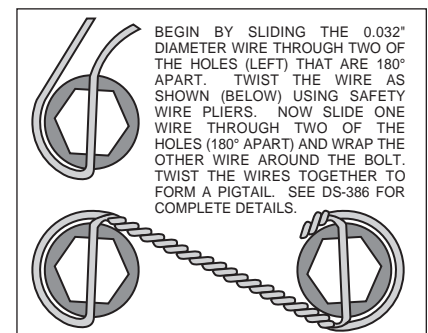

Figure 4. Safety Wire Diagram
- Slide the bracket kit assembly (1) onto the housing flange and then insert the axle assembly through the center hole of the bracket kit assembly (1). Secure using the stock Original Equipment Manufacturer (OEM) bolts and nuts. Stock OEM hex nuts that retain the bracket kit assembly (1) should be on the wheel side of the bracket. Apply red *Loctite*® 271 to the stock OEM bolt threads and torque to OEM specifications. Make sure the bracket kit assembly (1) brake pads are FACING OUTWARD TOWARDS THE WHEEL.
- With the larger I.D. side of the rotor (3) facing away from the hat (2), bolt the rotor (3) to the hat (2) through the backside of the rotor using washers (4) and bolts (5). Using an alternating sequence, apply red *Loctite*® 271 to the threads and torque bolts to 140 in-lb. For an added measure of security, the bolts may be safety wired using standard 0.032 inch diameter stainless steel safety wire as shown in Figure 4. Please refer to Wilwood's data sheet DS-386 (available at www.wilwood.com/Pdf/DataSheets/ds386.pdf) for complete safety wire installation instructions.